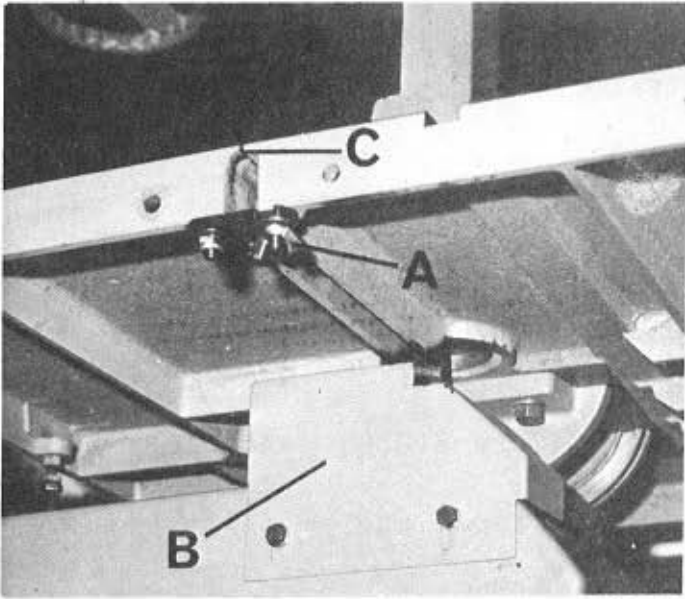

FIG 2
2. Loosen wingnut "A" FIG.2, and swing table, keep plate clear of slot then remove sawguard "B".
6. Insert blade through slot "C", FIG.2, in table and position blade on top and bottom wheels.
8. Slide table keep plate across table slot and relock wingnut "A" in FIG.2.